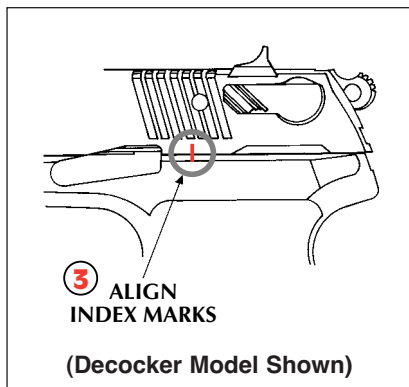
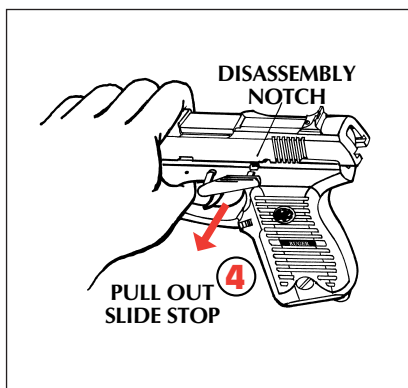

FIGURE 2
FIGURE 3
4. Remove fingers from ejection port. Grasp slide tightly. Now press down on slide stop and allow slide to move slowly forward until the vertical disassembly line on the frame is aligned with the vertical disassembly line on the slide (See Figure 2, p. 17). Press in on right-hand end of slide stop and pull slide stop out of frame to the left until it is withdrawn completely out of the frame. (See Figure 3, p. 17).